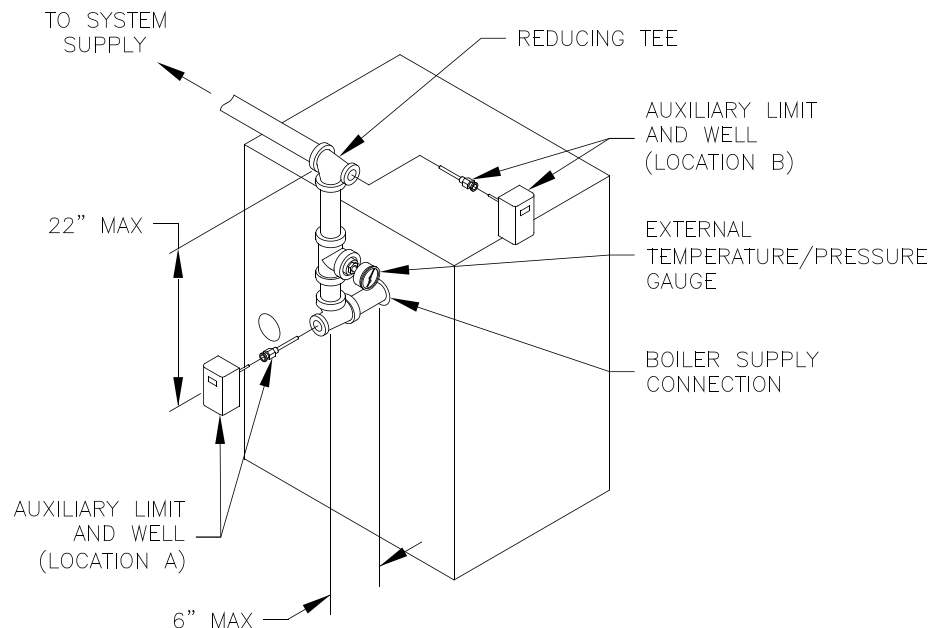

Figure 9: Recommended Auxiliary Limit Location
2. The recommended location for an Auxiliary Limit on gas hot water boilers is in the supply piping. See Figure 9 for recommended location.
4. When constructing a piping tree to install an Auxiliary Limit select fittings (tees, elbows etc) and nipples to have the same size (NPT) as boiler supply connection. At minimum, 1-1/4" tee with 1/2" branch outlet is required to install the limit well into the supply piping. See Figure 9. **DO NOT REDUCE THE SIZE OF NEAR BOILER SUPPLY FITTINGS AND NIPPLES.**